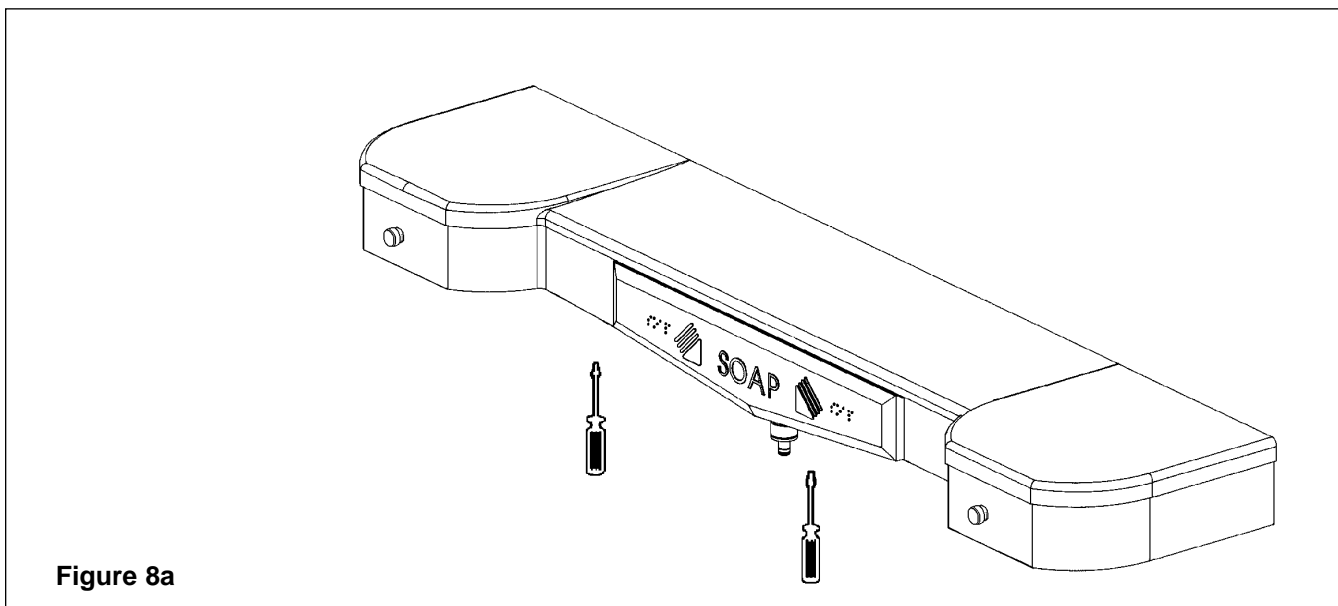

Figure 8a
1. Using two screwdrivers (or similar tool), push up on the release tabs located beneath each soap dispenser and pull out the soap tanks from the sprayhead (see Figure 8a).